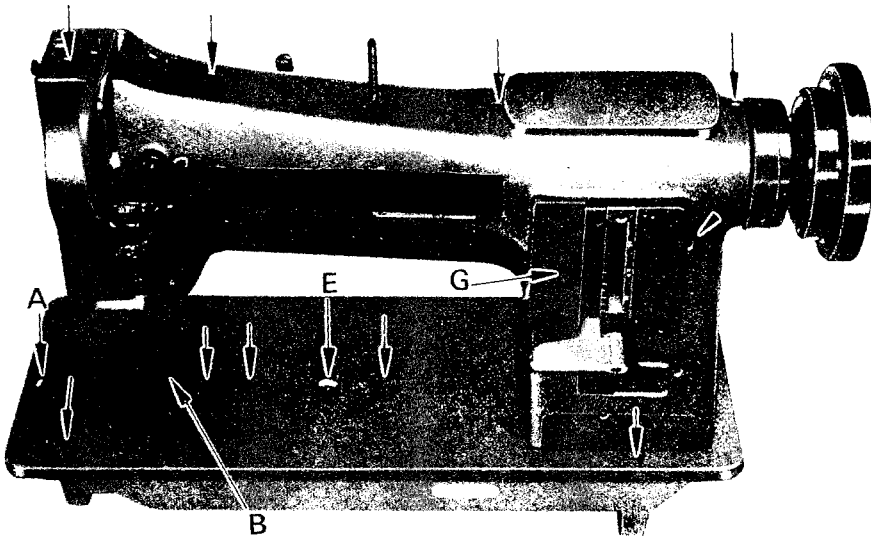
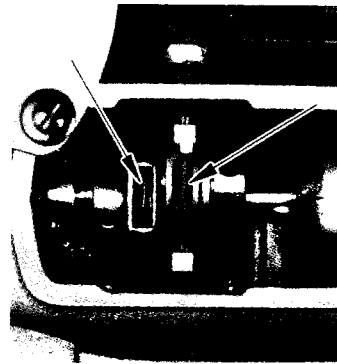

Fig. 2
Fig. 6
(Fig. 2 ~ Fig. 6)
1. Lift the needle bar to its highest point, place the feed dog at this side in its travel turning the machine pulley, and open the slide plate (A, Fig. 2).
If it should become necessary to re-engage the safety clutch, depress button (E, Fig. 2) in the bed plate of the machine. At the same time, turn machine pulley until the locking mechanism re-engages the drive shaft beneath the bed of the machine. Open bed slide plate and rock the machine pulley back and forth to remove any foreign matter which may have lodged itself in the hook. Do not use any sharp-edged tools, etc., lest the hook be damaged.